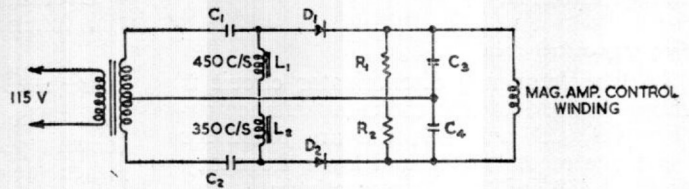

Fig. 10. Frequency discriminator circuit
**42.** The frequency discriminator circuit is shown in fig. 10. The choke-capacitance circuits L.1, C.1 and L.2, C.2 are tuned for resonance at the upper and lower frequency limits of 450 and 350 c/s respectively.